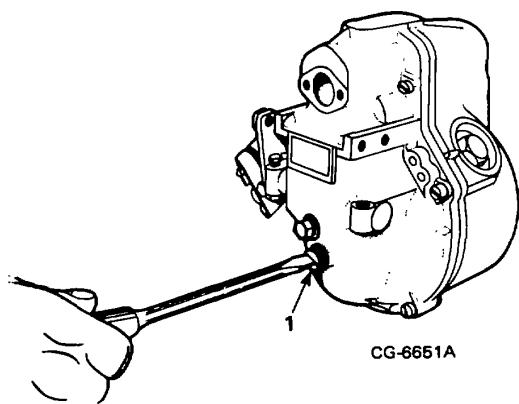

Figure 9. Removing Guide Pin
5. Remove slotted screw guide pin (Figure 9) from governor cover. Use large screwdriver to fit slot of this screw which has been sealed in place with Loc-Tite Red.